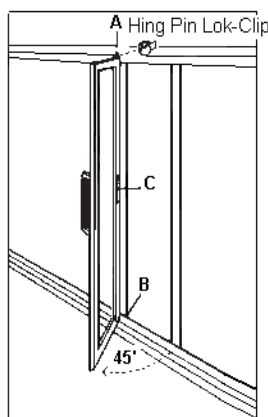
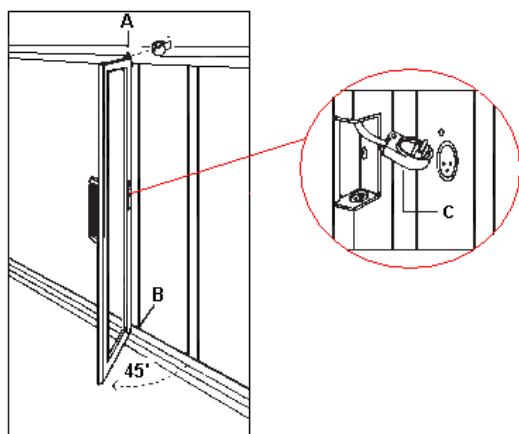

Figure 5
Figure 6
- Lift door into frame to engage top door hinge pin into top hinge mounting plate, Refer to Figure 5 \(A\).
- Reset door on bottom hinge (Refer to Figure 5 \(B\)) which allows finger clearance to plug in electrical cord. (Refer to Figure 6 \(C\)).
- Open door to approximately 45° to align bottom door pin with mounting hole in bottom plate (Refer to Figure 5 , B). Swing door open or closed to drop into proper alignment.
- Select Lok-Clip with proper thickness to fill space between top of door and outer frame. Refer to Figure 5 .